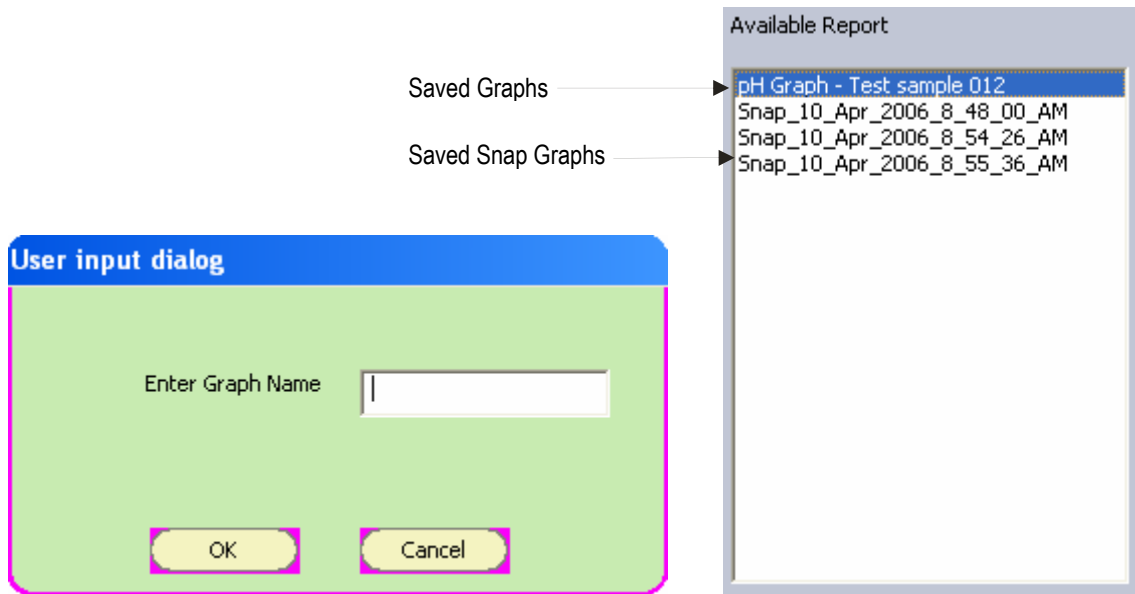

Figure 40 : Saving a graph
6. Click **Save** button, if you wish to save the graph. A dialog appears. (Figure 40)